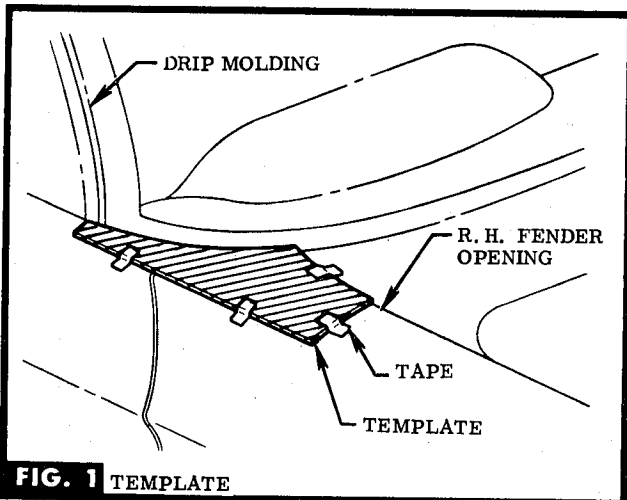

FIG. 1 TEMPLATE
STEP 1 ALIGN TEMPLATE ON R. H. FENDER, TAPE IN PLACE & DRILL HOLES AS INSTRUCTED ON TEMPLATE. SEE FIG. 1.